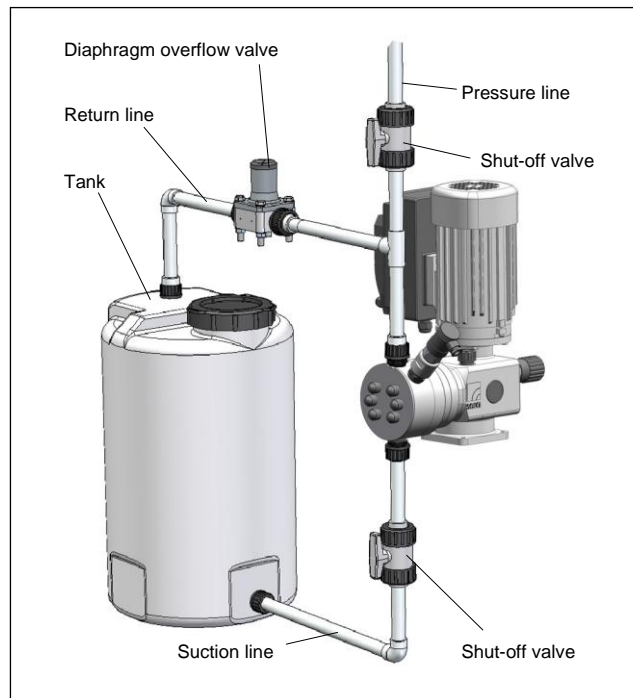

Fig. 20 System with (external) overflow valve
- lead the overflow line with descending gradient in the storage tank which is under atmospheric pressure or in an open drain gutter (see Fig. 20)